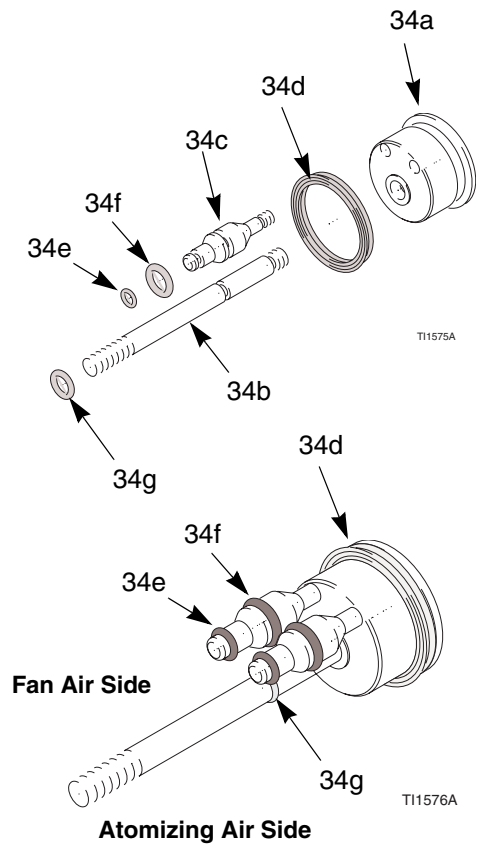

**Fig. 27. Actuator Arm**
2. Remove the air cap, page 45. Remove the gun shroud (2).
3. Remove the jam nut (28), actuator arm (29), and adjustment nut (30). See FIG. 27..
1. Install the adjustment nut (30), actuator arm (29), and jam nut (28) onto the piston rod (34b). Note that the jam nut (28) has a slightly larger hex and a thinner profile than the adjustment nut (30). See FIG. 27. on page 49.